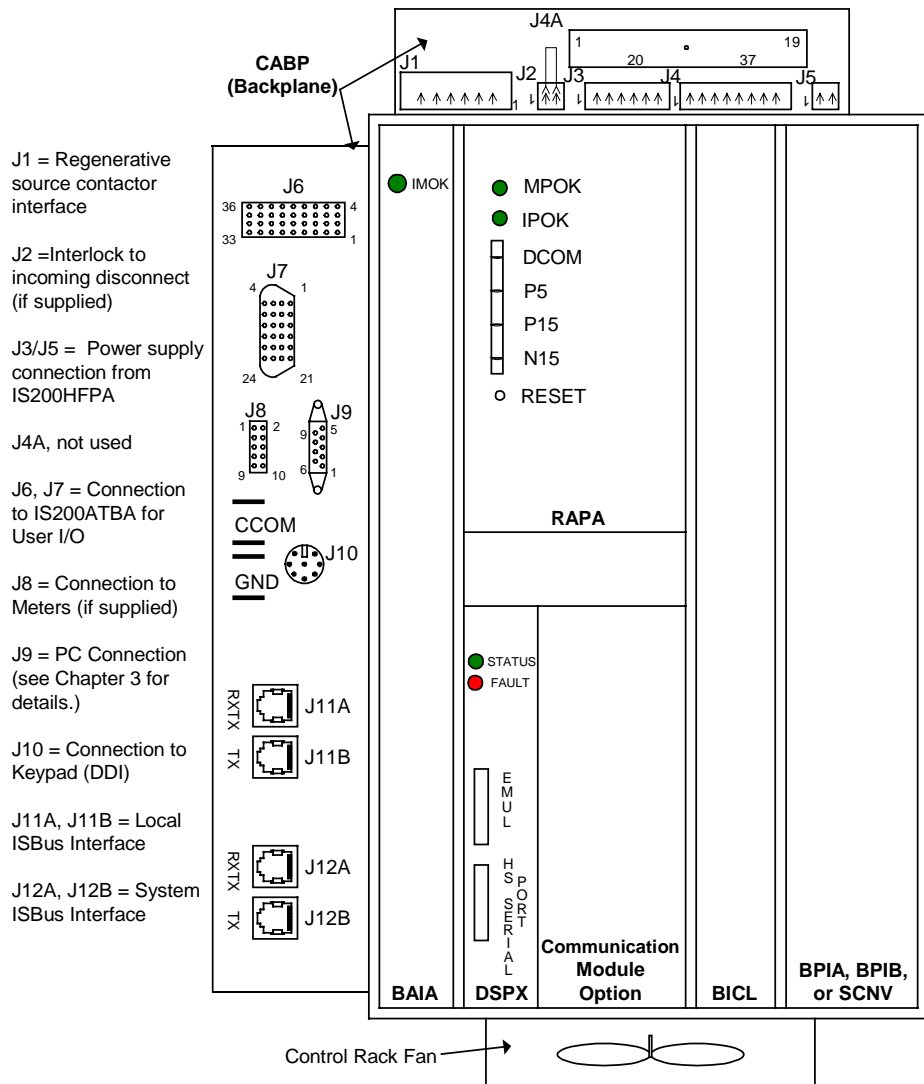

Figure 6-2. Front View of Control Rack
4. Check that the rack power supply is correct by monitoring the testpoints on the RAPA board with respect to DCOM: 5 V (P5)  $\pm 5\%$ , +15 V (P15)  $\pm 5\%$ , -15 V (N15)  $\pm 5\%$ . (Refer to Figure 6-2.)